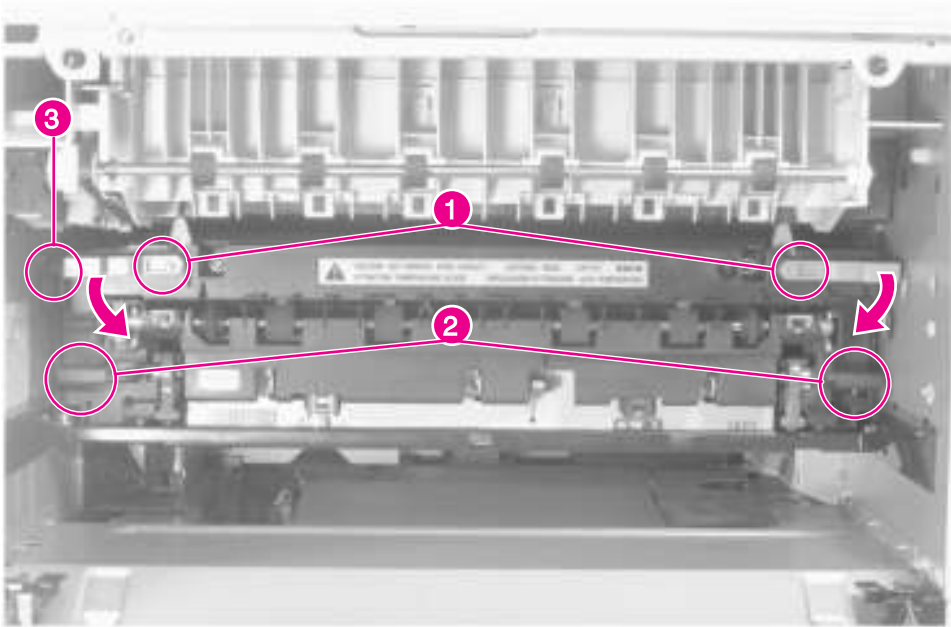

Figure 6-34 Fusing Assembly
- 2 Remove the Fusing Assembly (see figure 6-34 on page 198).
- 2 To release the Fusing Assembly rotate the upper levers down (figure 6-34, callout 1).
- 3 To remove the Fusing Assembly lift up on the finger handles (figure 6-34, callout 2) while pulling outward.
- 1** Make sure that the Fuser Output sensor flag (figure 6-34, callout 3) on the upper left corner of the Fusing Assembly rotates freely.